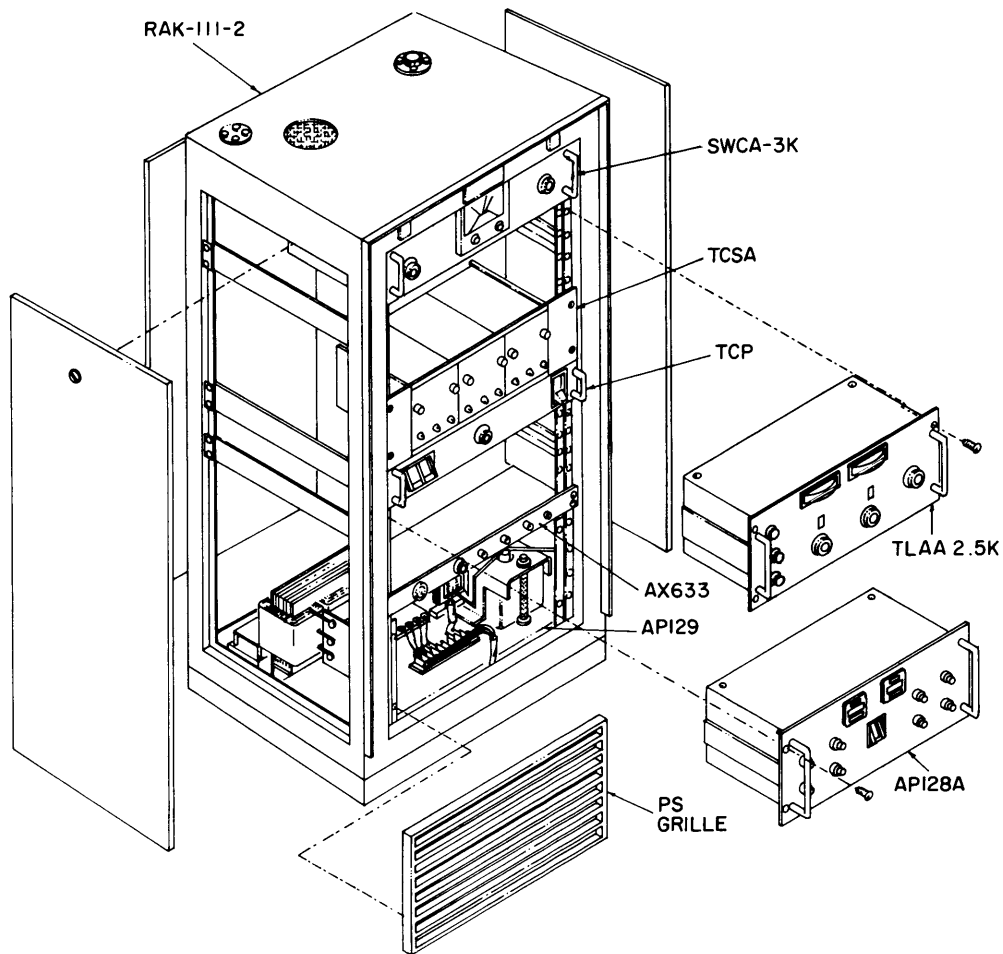
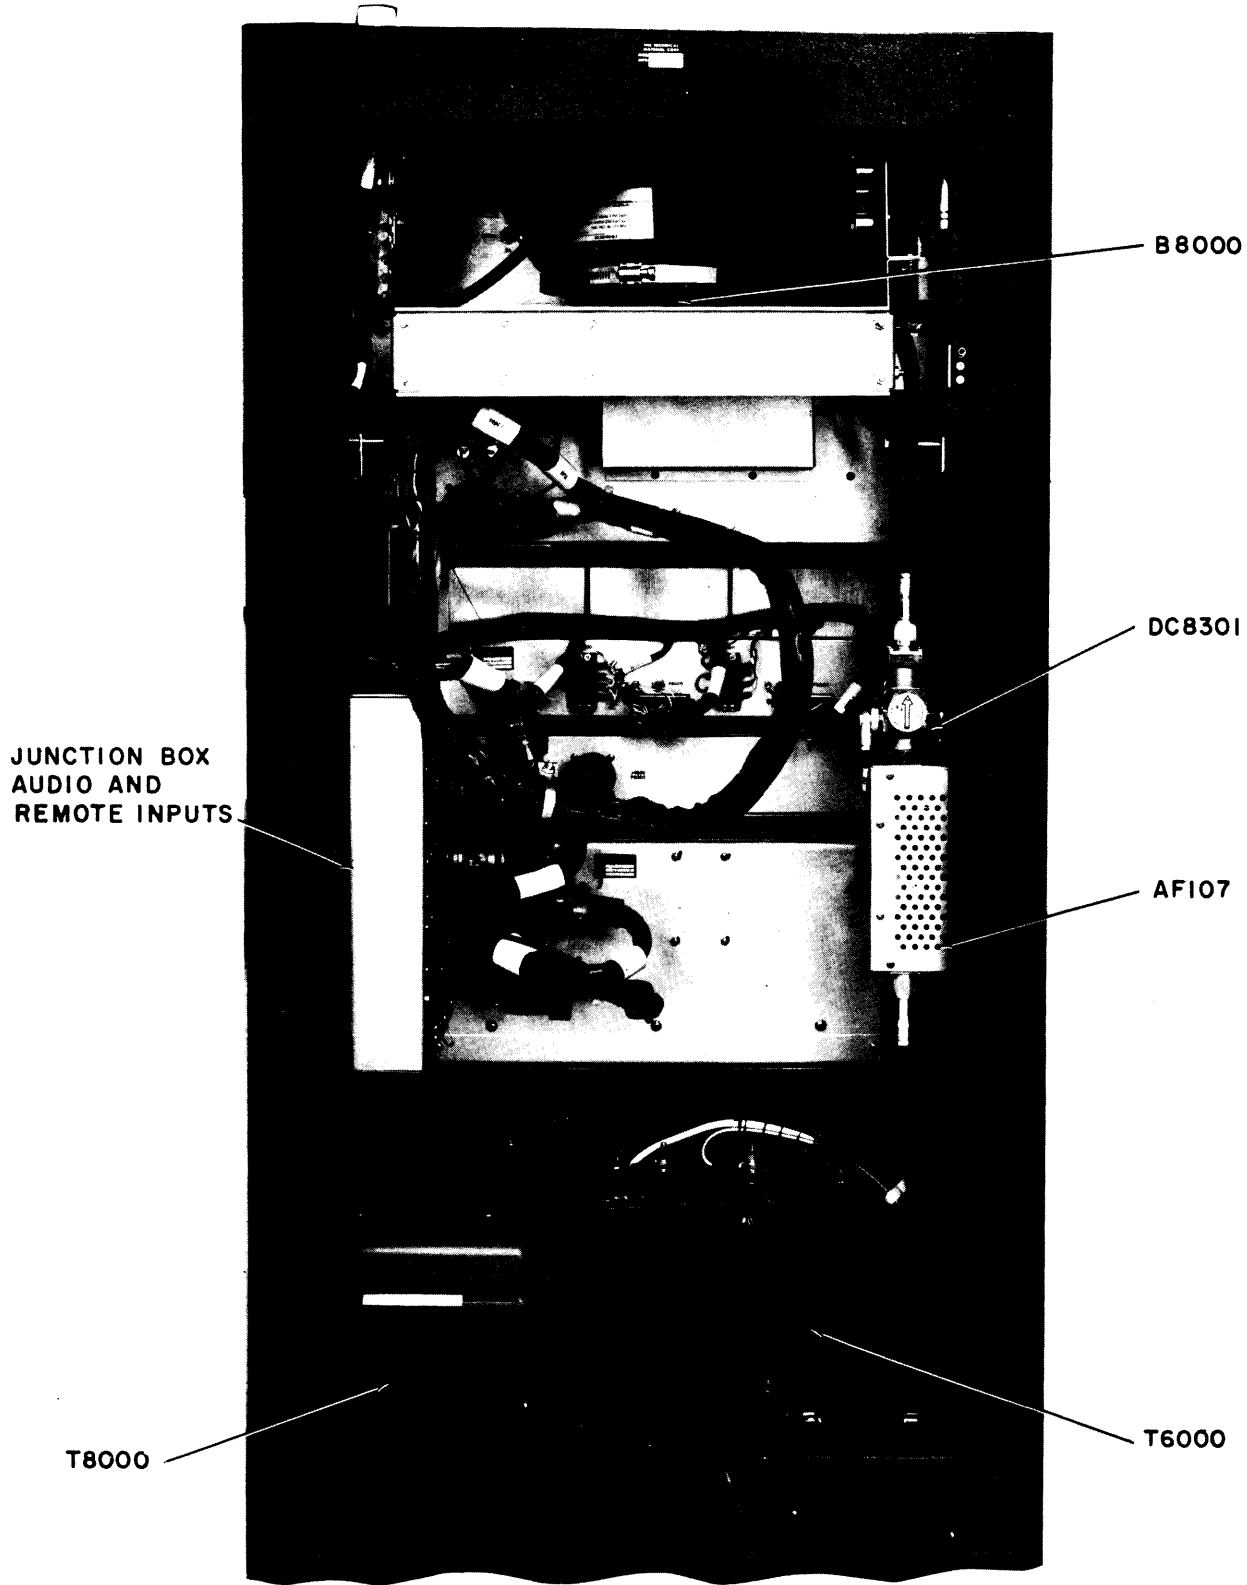

Figure 2-1. Installation Drawing
Figure 2-6. Rear View of PALA-2.5K
Install the modular unit components into the rack as shown in figure 2-1. Intracomponent cabling is shipped pre-installed in the rack in the form of cable harnesses attached to the rack structure. Connect each free plug-end of the harness to its mating receptacle on the component by matching the "J" number (marked on the cable adjacent to the plug) with the "J" number appearing on the component adjacent to the receptacle. In the same way, connect each free end containing a fanning strip to its mating terminal block by matching "E" numbers. Refer to paragraph 2-4 for installation instructions.
- b. Position rack upright, remove side and rear panels; this can be accomplished by turning the screw-type fastener located at the top-center of each panel. (See figure 2-1.)
- c. Remove all packing material from rack and position rack in accordance with pre-installation planning. (See figures 2-1 and 2-2.)
Now that each drawer assembly is unpacked, install it in its designated position (see figure 2-1) in the rack. To install any drawer assembly, proceed as follows (see figures 2-6 and 2-8):